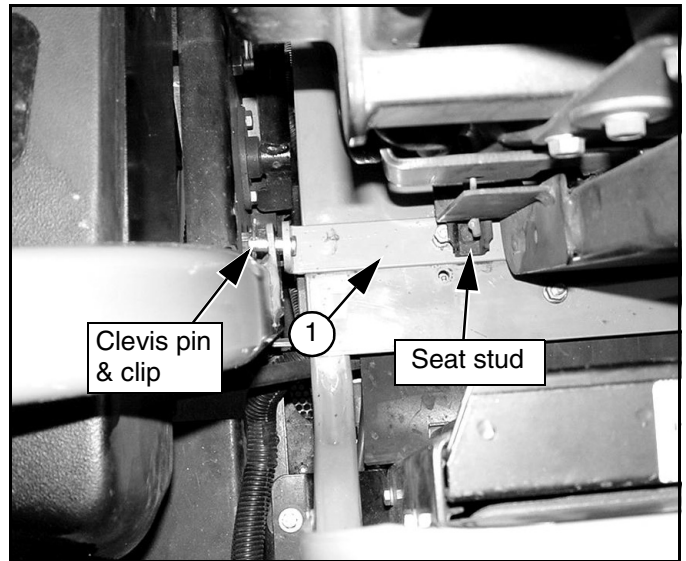

Figure 6. Retaining Strap Installed
5. Place the retaining strap (1) across the seat pan and insert the seat studs through retaining strap and seat pan (Figure 6). Secure seat by tightening all four nuts.
7. Insert clevis pins (8) through left and right side of retaining strap and ROPS tab. Secure with pin clips (7).